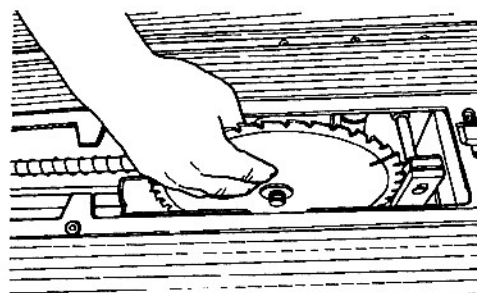

Fig. 46
55. Mount the saw blade on the arbor, as demonstrated in Fig. 46. Be careful not to cut yourself on the blade teeth and make sure the blade teeth point toward the front of the machine.